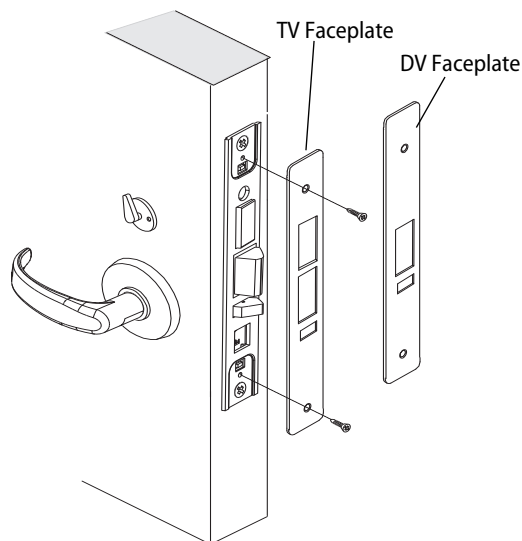

Figure 18 Installing the mortise case faceplate
- 1 Secure the mortise case faceplate to the mortise case with the faceplate mounting screws. See Figure 18.